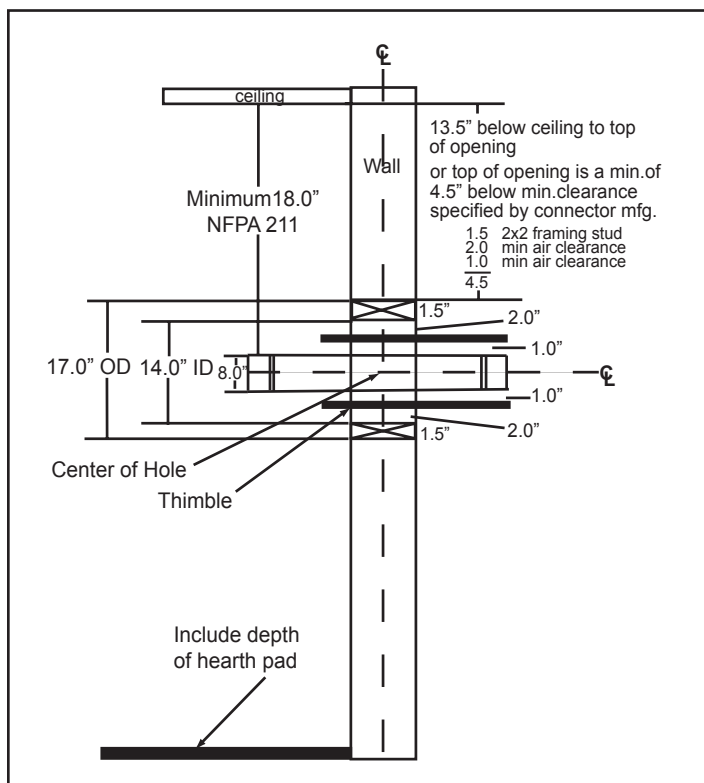

Figure 13.1
- Top of wall opening is a minimum of 13-1/2 inches (343mm) from ceiling or 4-1/2 inches (114mm) below minimum clearance specified by chimney connector manufacturer. NFPA 211 minimum vertical clearance of 18 inches (457mm) from chimney connector and ceiling or minimum recommended by chimney connector manufacturer. **Figure 13.1**
1. Open inside wall at proper height for the chimney connector to entry the masonry chimney. **Figure 13.1**
3. Construct a 17 inch x 17 inch (432mm x 432mm) outside dimension frame from 2 x 2 framing lumber to fit into wall opening. Inside opening of frame should be no less than 14 inch x 14 inch (356mm x 356mm). **Figure 13.1**